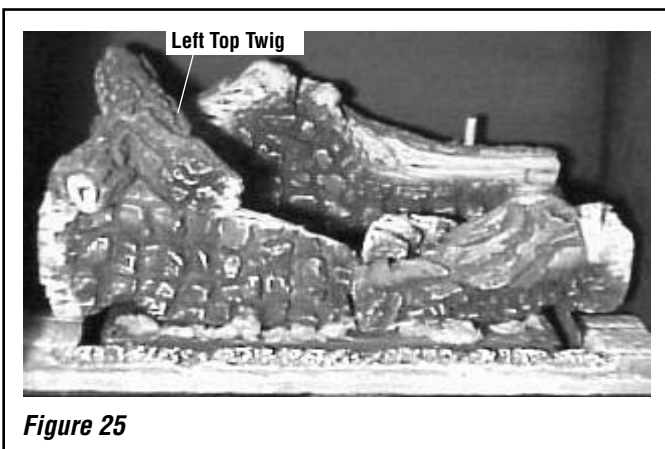

Figure 25
6. Install the left top twig onto the corresponding pin on the rear log and align it with the indentation on the front left log as shown in **Figure 25**.